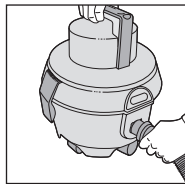

Fig.8/1
2. The flexible hose can be disconnected from the vacuum cleaner by rotating anti-clockwise and pulling away from the machine (Fig.8/1). Remove any blockages found then reconnect the hose securely.